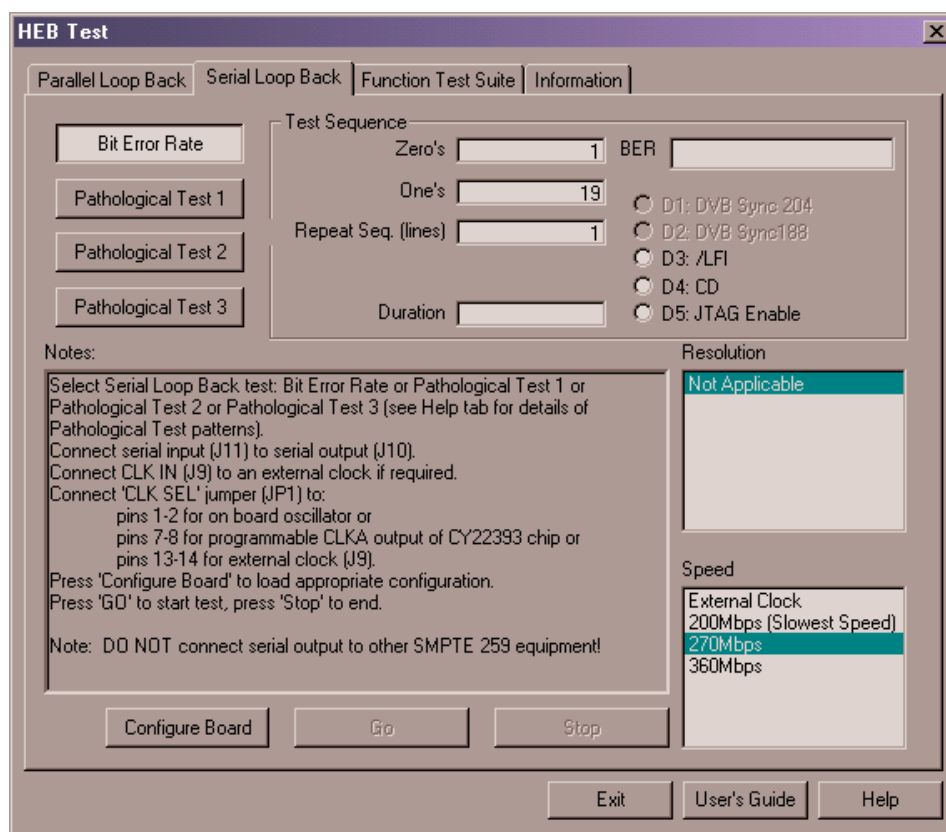

Figure 5-8. Serial Loop Back Test Window
The serial loop back test window of the GUI is shown in *Figure 5-8*. The different serial loop back test modes are described as follows:
- Click on the "Serial Loop Back" tab on the GUI test window as shown in *Figure 5-8*. Select the test that has to be performed by pressing the appropriate button. Bit Error Rate test is selected in *Figure 5-8*.